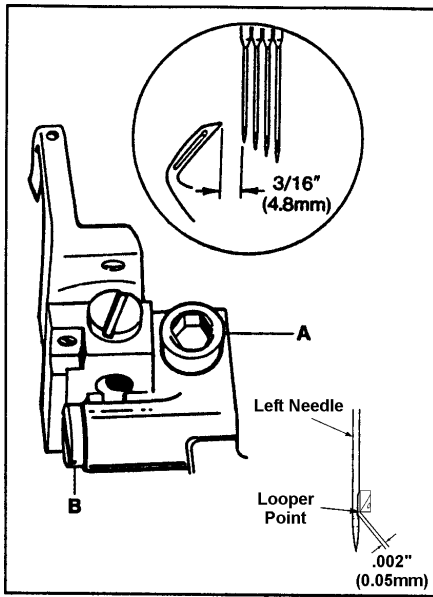

FIG. 15
Turn the handwheel in operating direction until the looper has traveled fully to the left. Loosen screw (A, Fig. 15) and move the looper holder to the right or left until the distance from the point of the looper to the center of the first (left) needle is $\frac{3}{16}$ " (4.8mm). Clearance between the looper point and the scarf of the needle must not exceed .002" (0.05mm). Turn screw (B) until the .002" (0.05mm) dimension is achieved. Tighten screw (A).